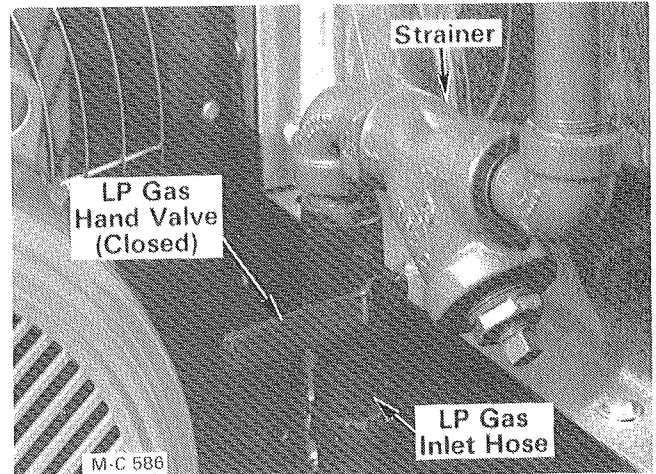

Figure 46 - LP Gas
- C. **LP Gas** - Open the supply valve at the tank, the hand valve at the LP Gas inlet hose and open (lift up) the liquid line flip valve on each burner, see Figure 46 and 46A.